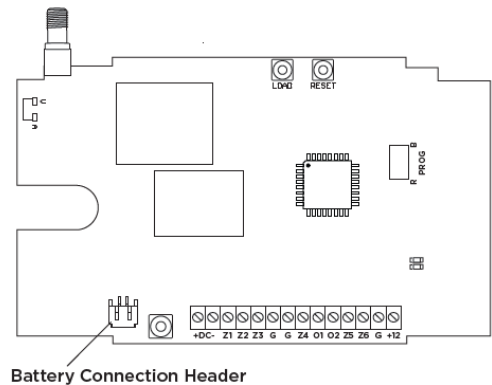

Figure 2: Backup Battery Connection on Panel
3. Connect the battery lead connector to the battery connection header on the panel. Refer to Figure 2.